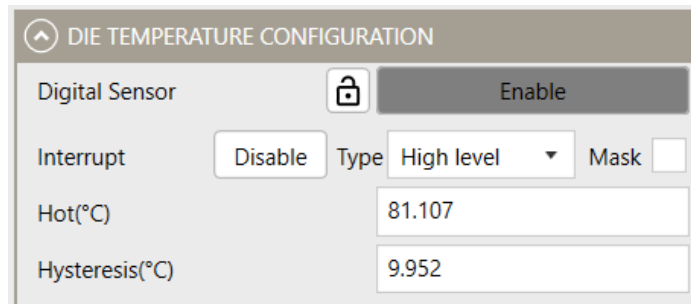

Figure 20: Die Temperature Configuration
- Higher Over-Temperature (OT): Defines the selection criteria for the NTC hot threshold when the battery pack current is within the standby current threshold. If disabled, select the hotter threshold; if enabled, select the colder threshold.
- Lower Under-Temperature (UT): Defines the selection criteria for the NTC cold threshold when the battery pack current is within the standby current threshold. If disabled, select the colder threshold; if enabled, select the hotter threshold.
15. Figure 20 shows how to configure the die temperature parameters.